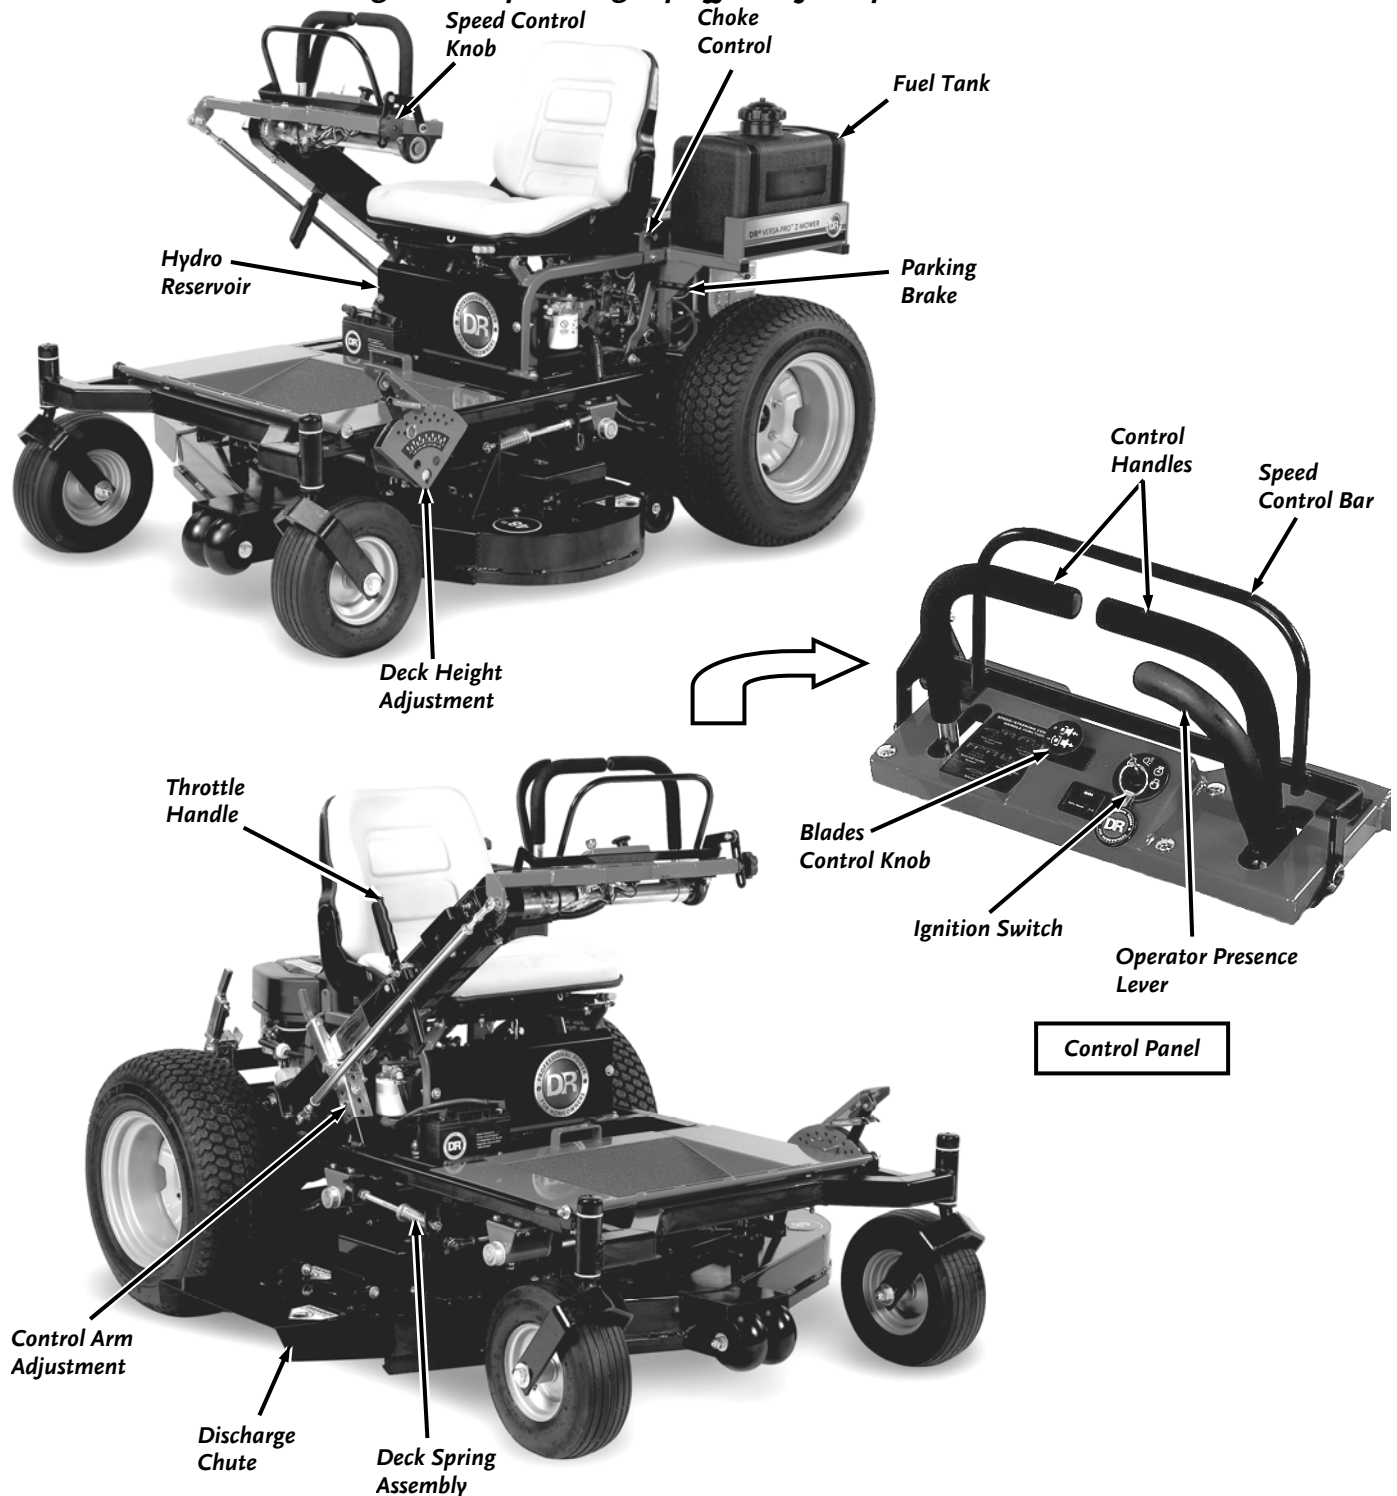

Figure 1
It may be helpful to familiarize yourself with the controls and features of your DR VERSA-PRO Z-MOWER as shown in **Figure 1** before beginning these procedures. If you have any questions at all, please feel free to contact us at www.DRpower.com.
Note: The model shown in Figure 1 may look slightly different from your machine.
This chapter covers the procedures for starting and stopping your new DR VERSA-PRO Z-MOWER and discusses basic operation features. You may find it helpful to review the Controls and Features (**Figure 1**) on page 7 before reading this chapter.
1. Stand in the Operating Position behind the Control Handles or sit in the seat, start your machine, hold the Operator Presence Lever against the Right Handle (**Figure 1 on page 7**) and engage the Blades.
1. Make sure the Control Handles are at their Neutral position (**see Figure 1 on page 7**).